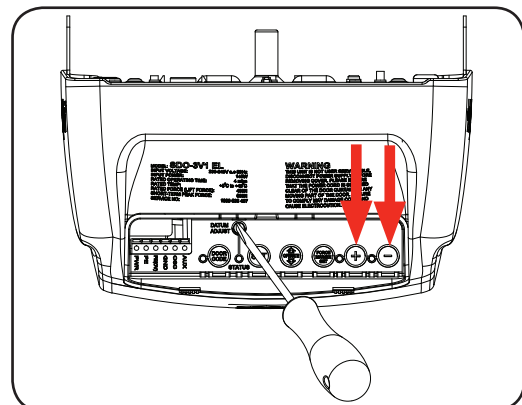

Fig. 27
- Using a small screwdriver, turn the DATUM ADJUST screw until the STATUS LED comes on (Fig 27).